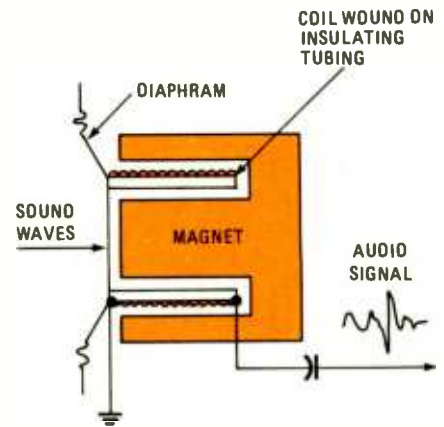

Fig. 3. A dynamic microphone works by inducing a current in a vibrating coil around a stationary magnet.
**Dynamic Microphones.** The dynamic microphone uses the same principle as the loudspeaker, but in reverse. A loudspeaker will not only change an audio voltage into sound, but it will also change sound into an audio voltage; see Fig. 3. As the sound waves strike the diaphragm of the microphone, the diaphragm moves in and out. A small coil located in a magnetic